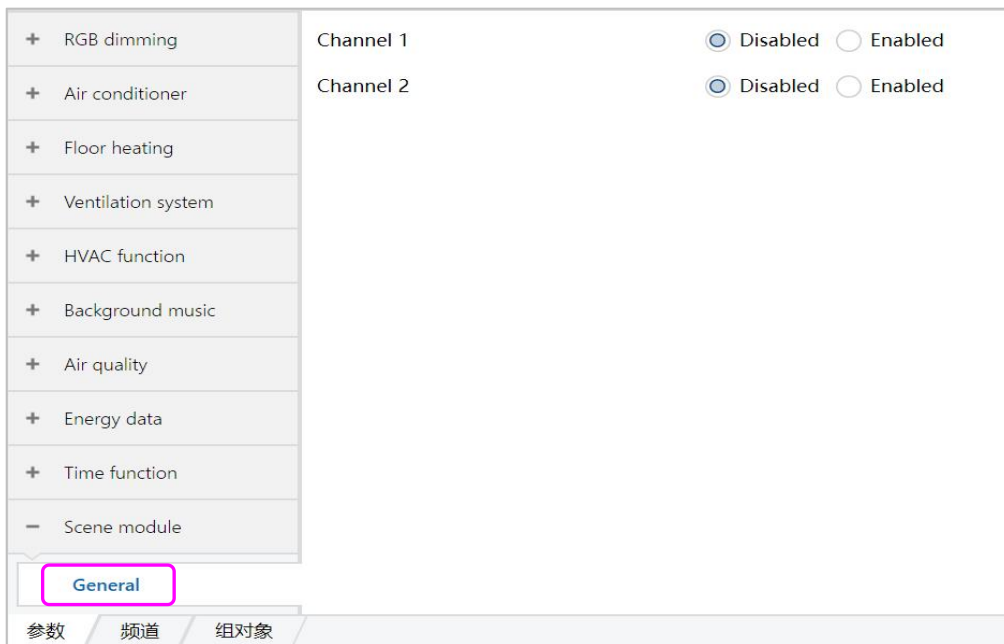

Figure 6.13.1
(1) Click on the option in the red box below to set the relevant parameters, as shown in Figure 6.13.1